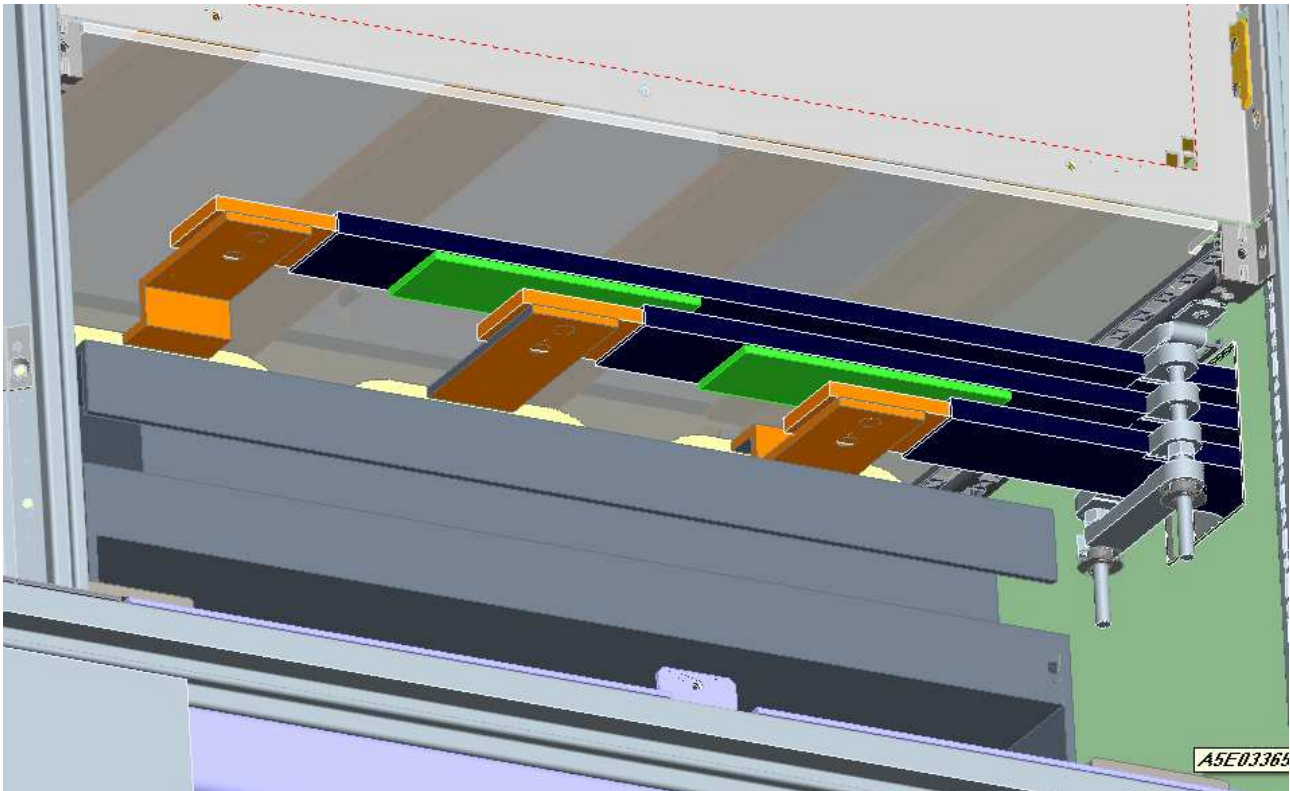

Figure 6-7 Mounting the Eriflex conductor bars on the DC side
- Mount the fixing block (see Figure 6-7 on the right side, gray colored) close to the opening on the cabinet side wall.